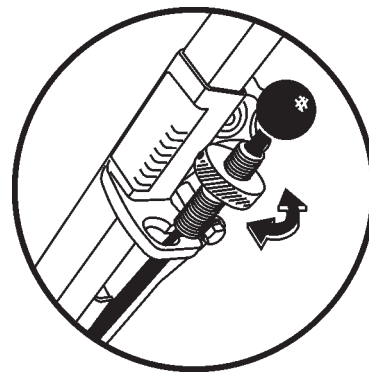

Figure 14. Raise/Lower Adjustment Wheel
2. While holding the handle bars to support the weight of the saw, grasp the knob of the Depth Stop Rod and move it forward out of its keyhole slot. (Figure 14)